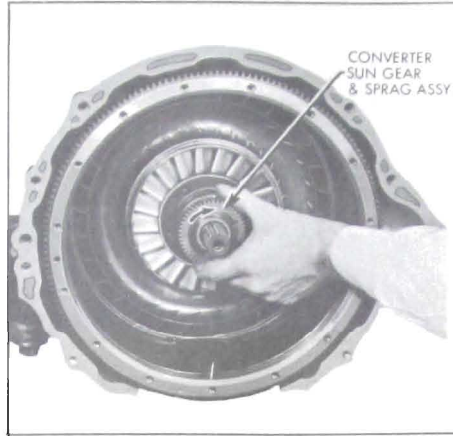

Figure 5-62—Checking Sun Gear Sprag Operation
7. Check operation of sun gear sprag clutch by sliding sun gear assembly on reaction shaft with gear end toward front of transmission. When viewed from front of transmission sun gear must rotate freely clockwise and lock in a counterclockwise direction. See Figure 5-62.